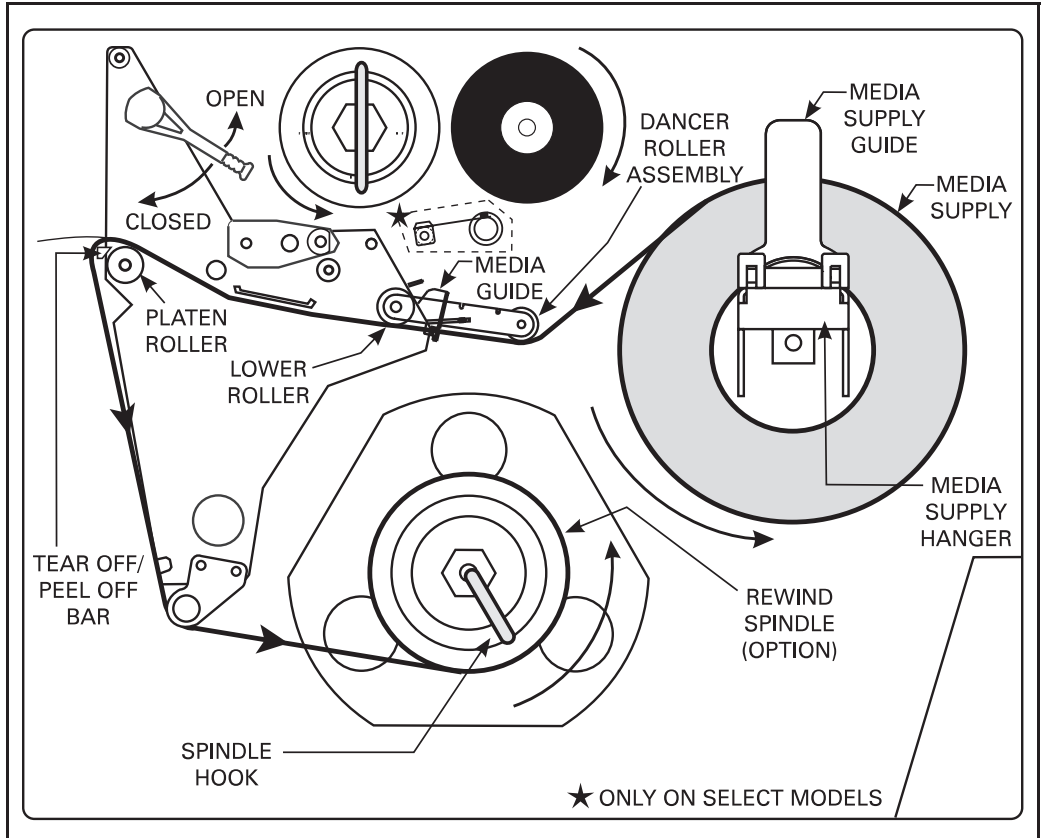

Figure 1. Media Loading
To load media, refer to Figures 1 through 3 and follow the loading procedure for your application. This section details the media loading instructions for the printer. For descriptions of the operating modes, refer to Chapter 2 starting on page 23.
Figure 1 illustrates the method of loading media. First, move the Printhead Open Lever counterclockwise to the open position and raise the printhead. Second, slide the Media Guide and the Media Supply Guide as far out from the printer frame as possible and flip down the Media Supply Guide.
7. Route the media as shown in Figures 1 and 2 and wind it once or twice around either (1) the Rewind Spindle and reinstall the Hook, or (2) a 3" core.
2. Load media as shown in Figure 1 or 2.